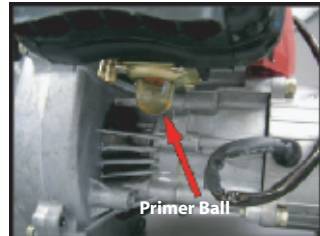

Fig. 5
2. Push primer ball until all excess fuel empties into draining container or pan (Fig.5).